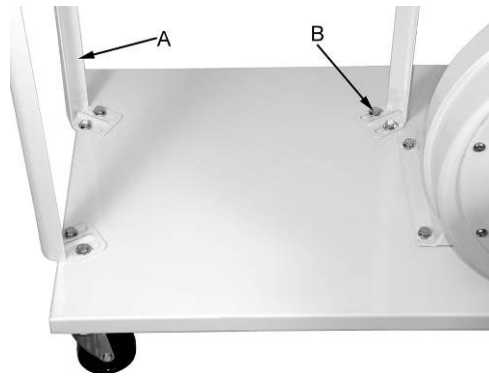

Figure 4
- Attach three *support legs* (A, Fig. 4) to the base using six M8 x 16 hex cap bolts and six M8 flat washers (B, Fig. 4). Hand-tighten only at this time.